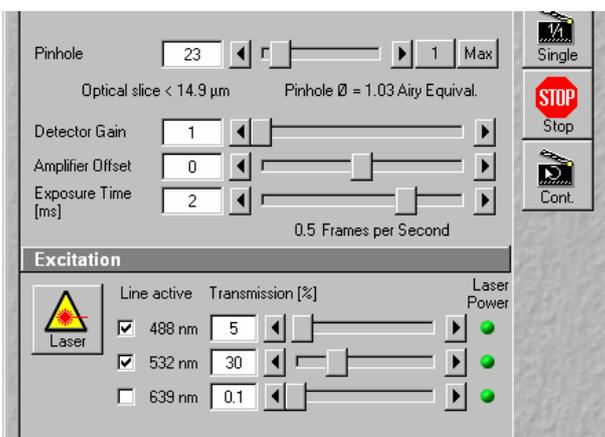

Fig. 31 Scan Control window, Channel settings
- Set the **Pinhole** to **1** Airy Unit (Fig. 31).
- When the image is saturated, reduce AOTF transmission in the **Excitation** panel (Fig. 31) using the slider to reduce the intensity of the laser light at the specimen.
- Increase the **Amplifier Offset** until all blue pixels disappear, and then make it slightly positive (Fig. 31).